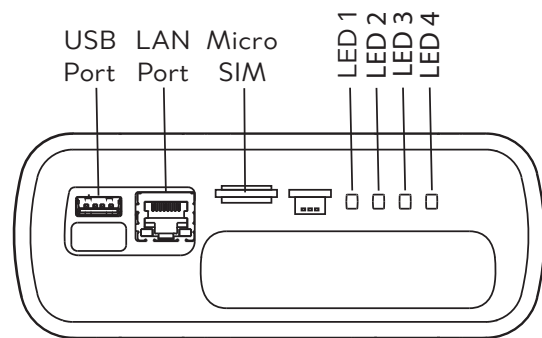

Fig. 6-6 GTW-1 Interface ports and LEDs
- 4) Refer to Fig. 6-6. Insert the memory stick into the USB port of the GTW-1.